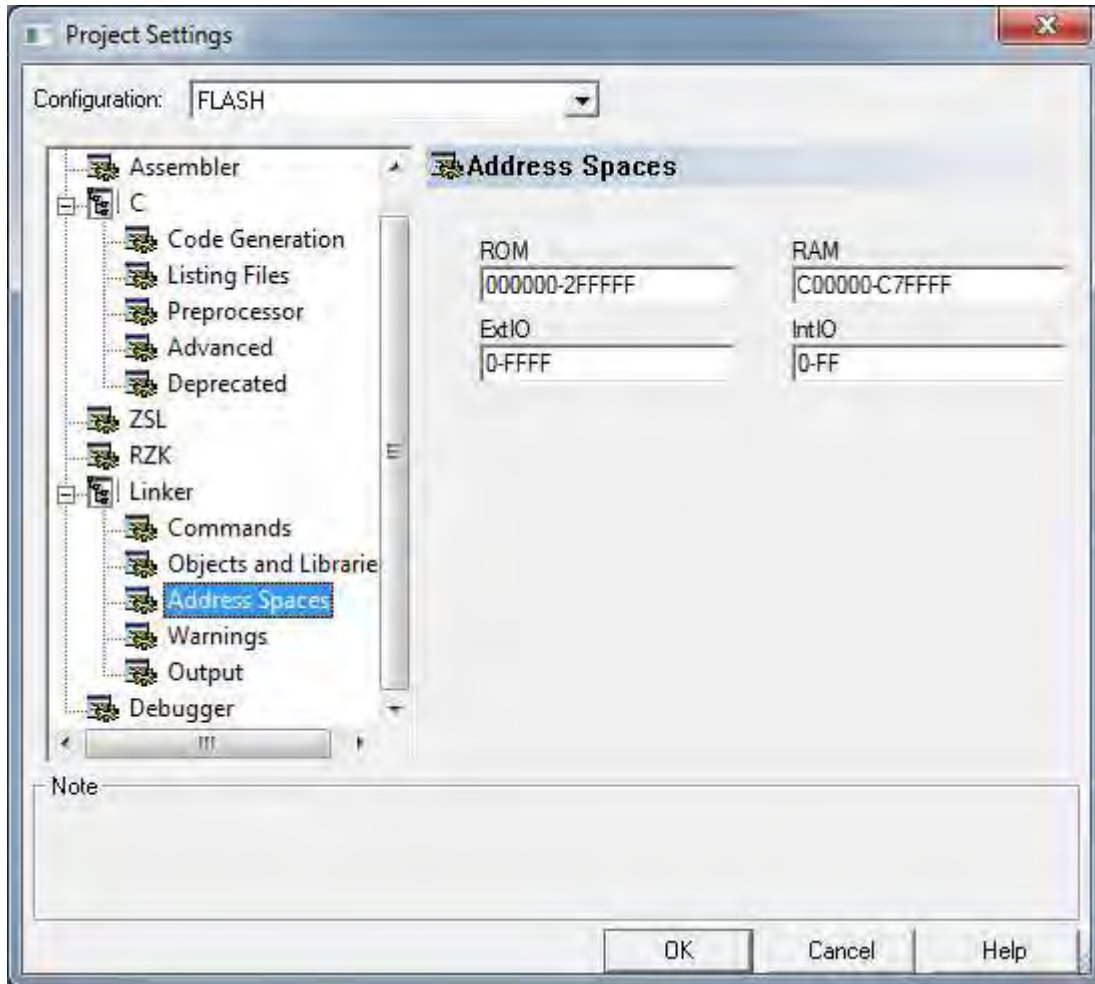

Figure 5. The Address Spaces Dialog for the Flash Build
tings menu for Flash build configurations which are shown in Figure 5. Verify that the settings match the values shown in this figure.
► **Note:** The ROM address space shown in Figure 5 only includes the first 3 MB of external Flash memory. If the project requires additional ROM memory (i.e., code space), the upper range of the ROM address space can be increased up to 0x7FFFFFFF.